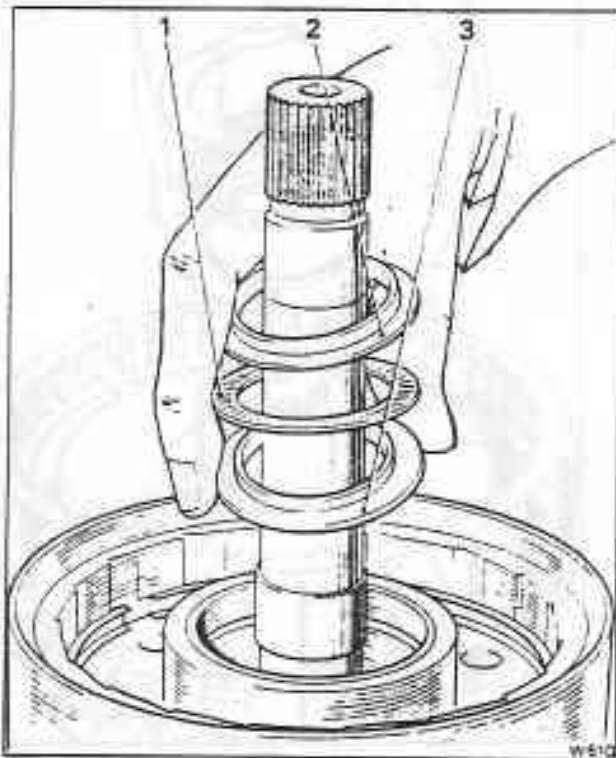

Fig. T19-18 Fitting the races and thrust bearing to the sun gear
20. Smear the centre support to sun gear thrust races and bearing with petroleum jelly and fit as follows (see fig. T19-18).